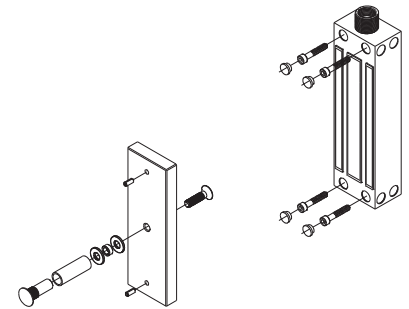

Figure 1: Orientation A
3. Remove rubber plugs from necessary holes, and mount mag lock in required orientation using screws suitable for particular installation. (See **Figures 1 and 2.**)